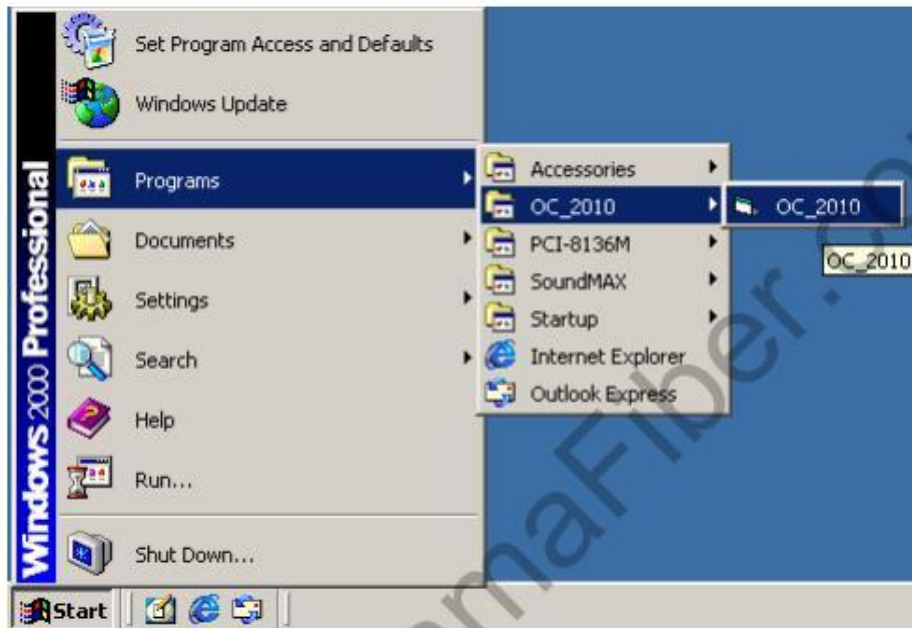

Figure 5 Start OC_2010 Software
4.2.1. Start OC_2010 software. See Figure 5: